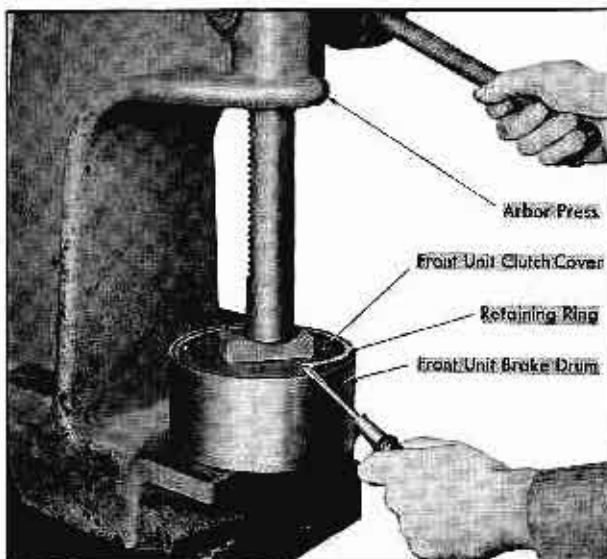

Fig. 14-30 Removing Clutch Cover Ring
1. Place front unit assembly in press and remove clutch cover retaining ring. Fig. 14-30.